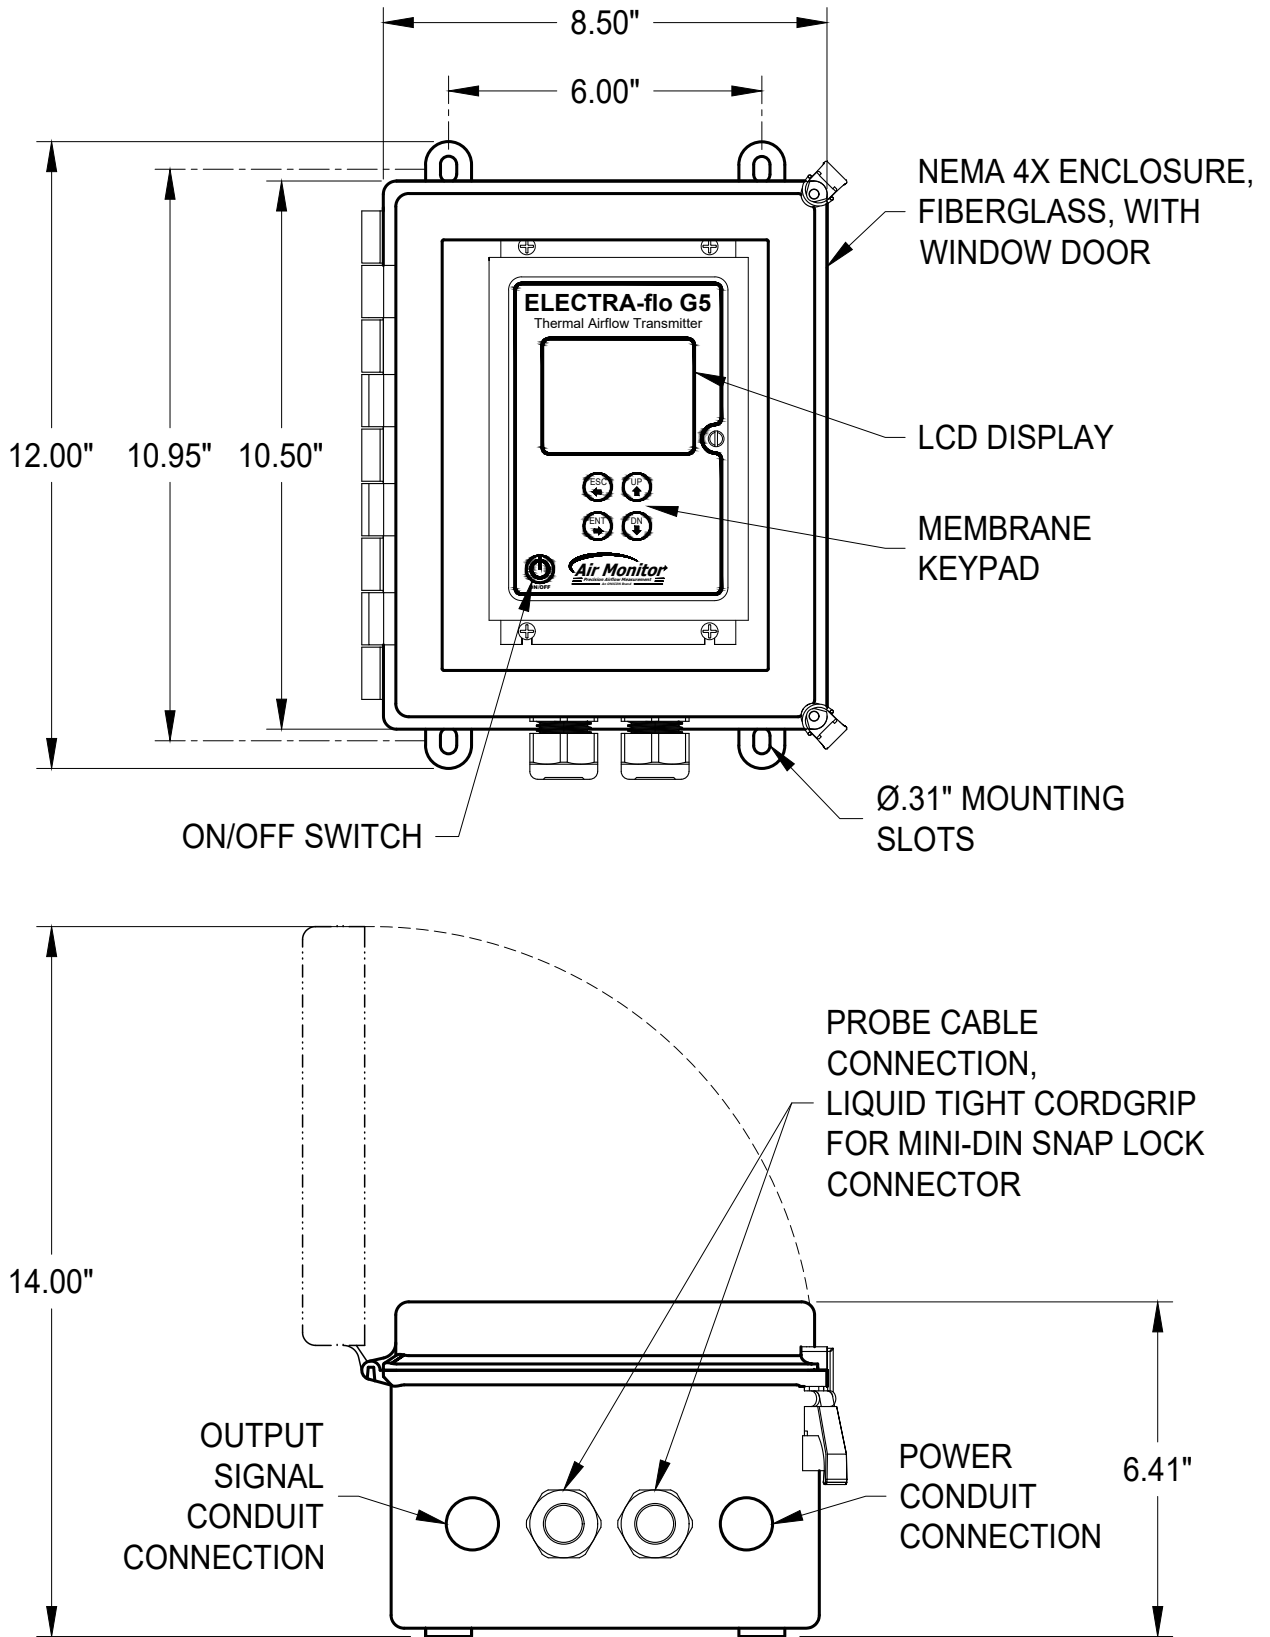

Figure 16
- For NEMA 4X Fiberglass Enclosure (See Figure 16): Tools Required: Electric drill, #16 (0.177") bit, screwdriver or nut driver, and four #10-32 self-tapping machine screws and flat washers.